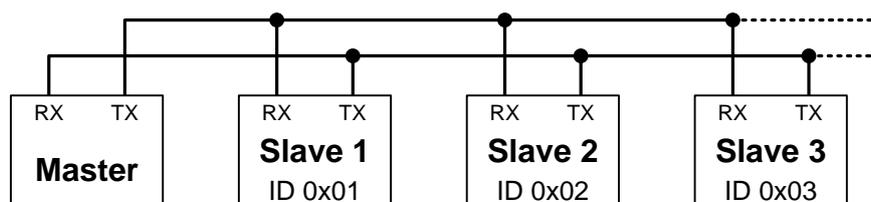

Figure 1: Modbus network with multiple slaves
Modbus is a *Master-Slave based* protocol. This means that at any point in time at most one special device exists in the network – the *master* – that can initiate commands against all other devices – the *slaves* (compare figure 1). A slave can not initiate a transmission on its own. This simple principle restricts the communication in the network, but avoids collisions on the bus altogether.
- Form networks of multiple slave devices and one master device (as shown in figure 1). Make sure that you use a different slave ID for each of the slaves (the group number). Attach the TX lines of all slaves to the master's RX line and all slave's RX line to the master's TX line. Visualize the temperature values of all slaves on the master's LCD.